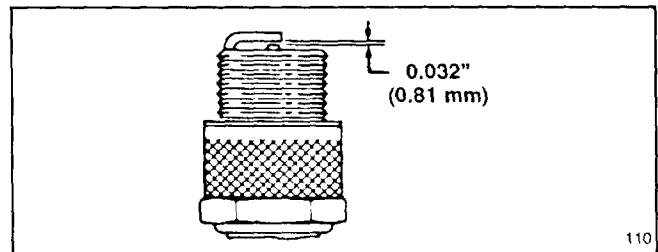

Figure 9
3. Set air gap at 0.032" (0.81 mm) (Fig. 9). Install correctly gapped spark plug and gasket seal. Tighten plug firmly to 10 ft-lb (13.6 N·m).